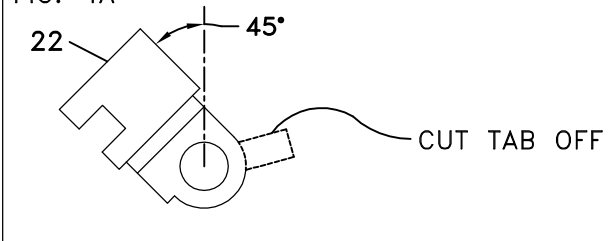

FIG. 5 MODIFY ALTERNATOR BRACKET
2. Remove the bracket across the top of the alternator. Notch the corner on the front passenger side along a line from the bend in front to a point along the side 1 1/2" from the front. See Fig. 5. This is to allow clearance for the pump bracket. Replace the bracket back on the alternator.
4. Remove OEM idler pulley (18) to gain access to mounting bolt at location B.
5. Remove nut (11) holding wire (22, **pickup only**) at location A. Remove stud bolt (9) at location A. Remove OEM bolt at location B.